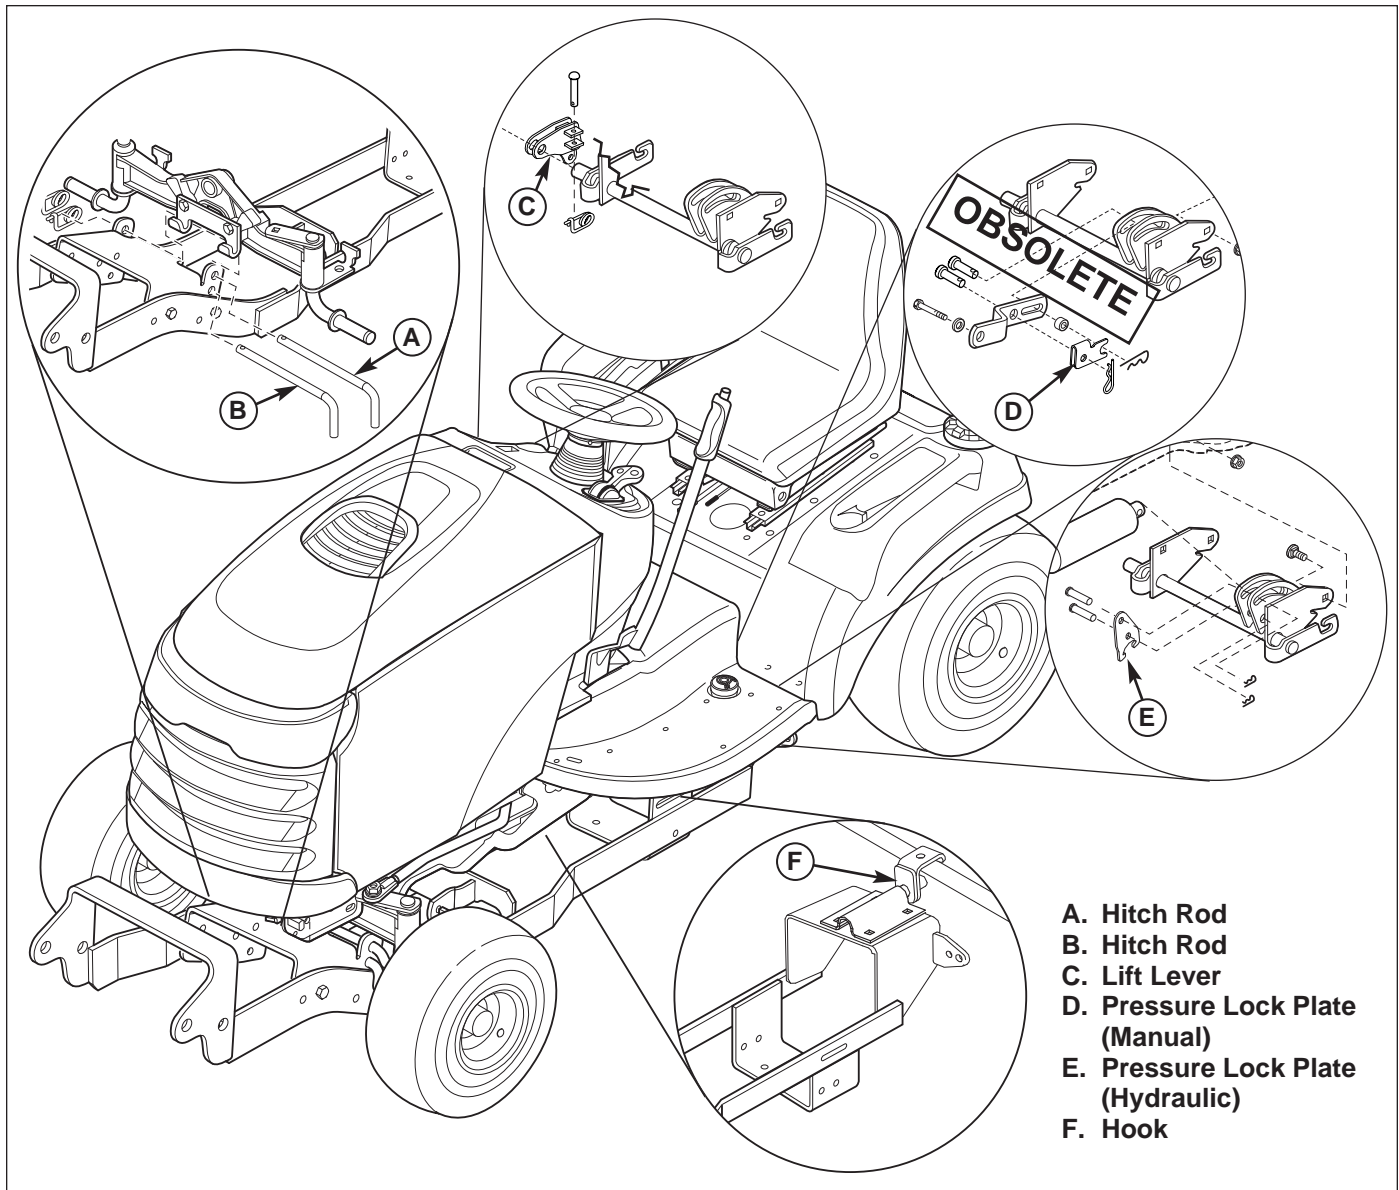

Figure 10. Normal Installation & Removal
1. Disconnect the lift rod from the attachment and lift lever (C, Figure 10).
2. Remove the clevis pin and clip from the lift lever (C) and remove the lift lever.
3. Remove the front hitch rods (A) and (B). Remove the hitch and hook (F).
1. Insert the hook (F, Figure 10) into the back of the hitch. Mount the rear of the hitch on the lift cross-shaft.